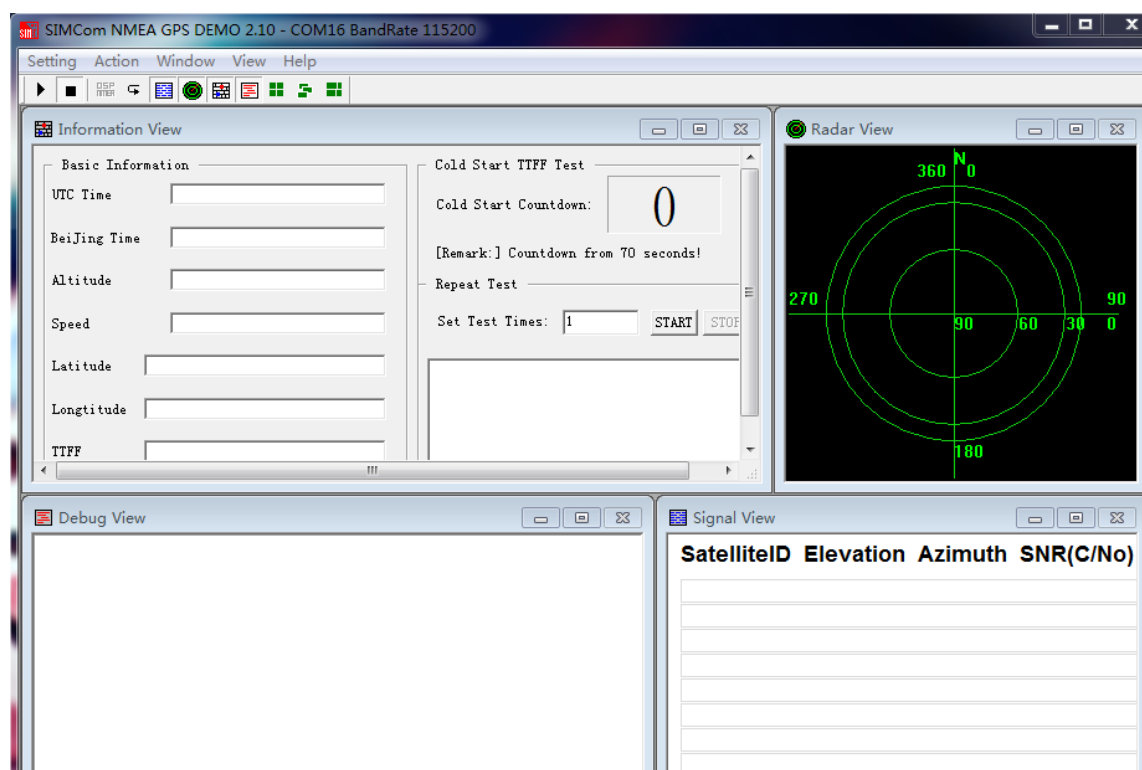

Figure 7: NEMA GPS Demo
- ① Start the software NEMA GPS DEMO V2.2, as Figure 7 shows.